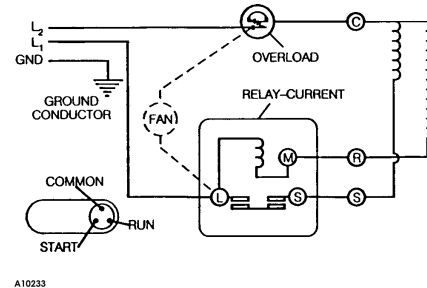

Figure 7.1. Compressor Schematic
- Bad windings (See **Figure 7.1**)
See Figure 7.1
- Check relay (See **Figure 7.1**). Unscrew lead terminals and remove relay from compressor. (NOTE: keep relay upright).
- Check compressor windings as shown in **Figure 7.1**